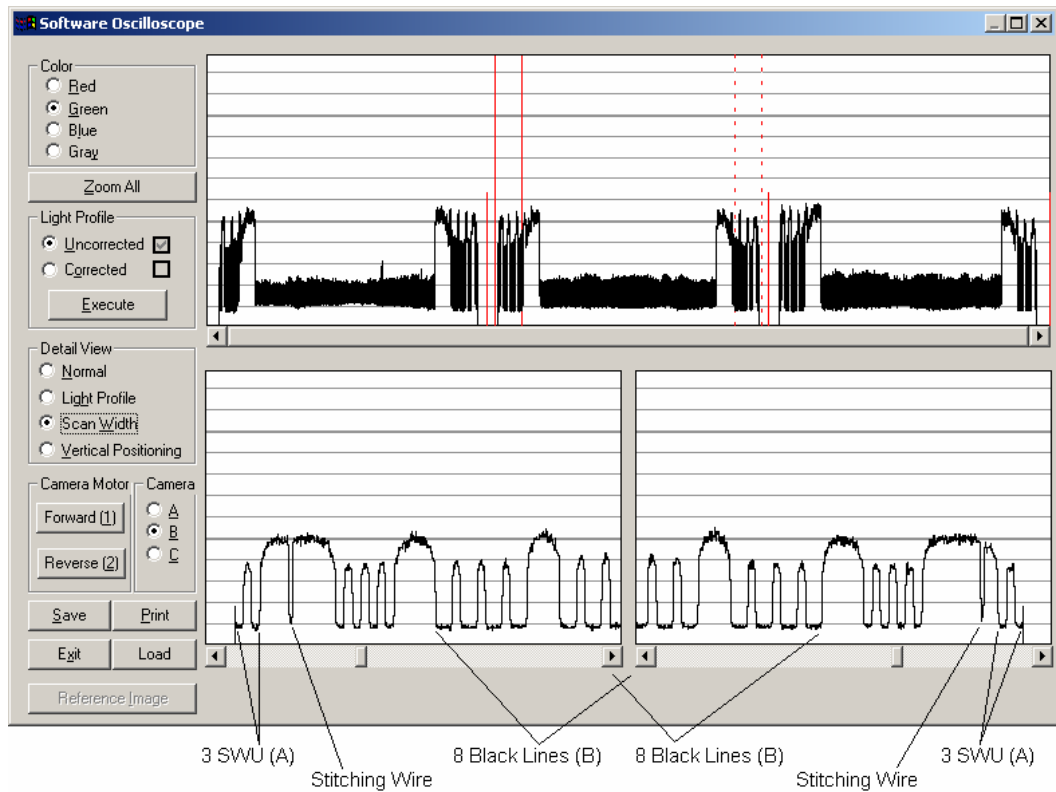

Fig. 4-24 CHROMA Tx 40, CRYSTAL Tx 40, Scan-Width, Camera B
- Fig. 4-24 CHROMA Tx 40, CRYSTAL Tx 40, Scan-Width (B), page 104